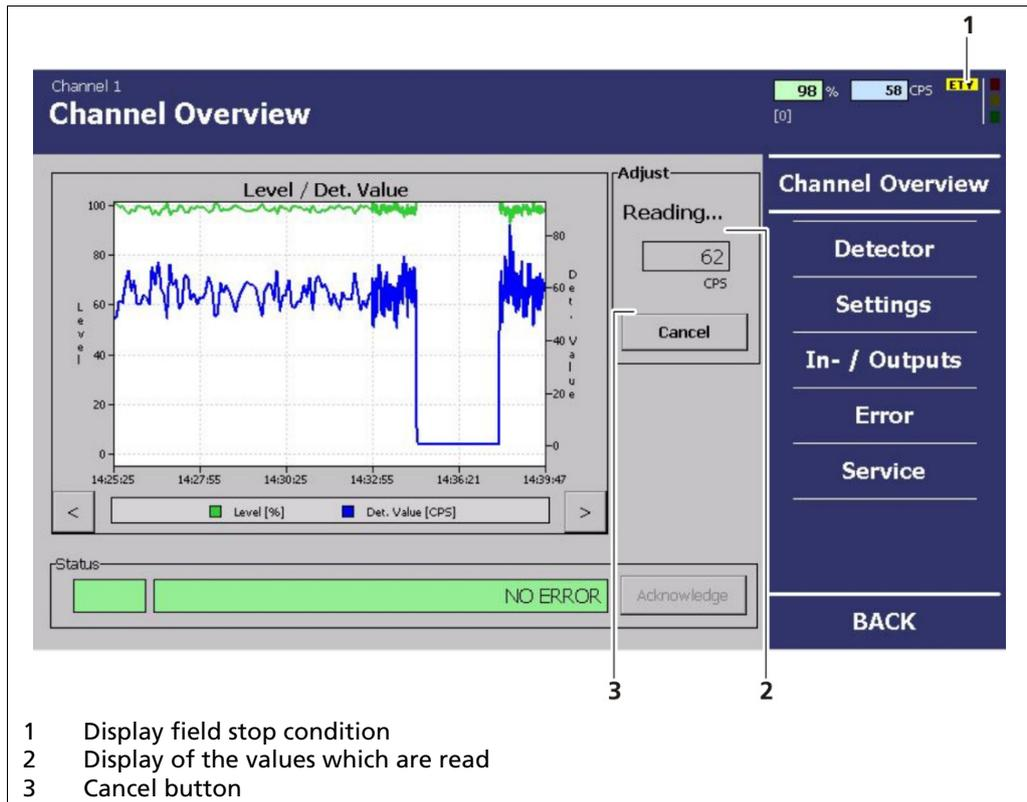

Fig. 53 Menu "Channel Overview", Adjustment - Reading in the values
- ▶ The current count rate is read in (Fig. 53, Item 2). The duration of the full adjustment depends on the settings applied in the menu **Settings | Calibration | Plausibility**. Further information on the settings can be found in chapt. 7.2.1 Calibration in the "Plausibility" submenu. You can cancel the full adjustment and the reading of values by clicking on the **<Cancel>** button (Fig. 53 Item 3). Manual cancelling is not recommended.
The evaluation unit is in the "empty adjustment" mode as long as the abbreviation "ETY" is displayed and is in "full adjustment mode" as long as the abbreviation "FUL" is displayed (Fig. 53, Item 1).